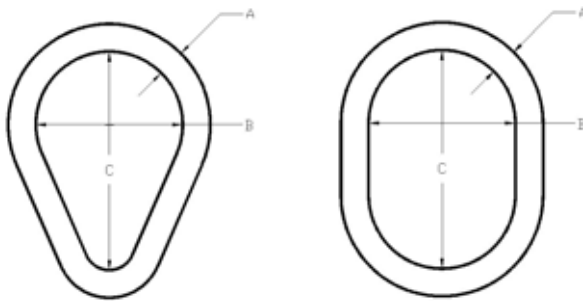

Figure 12. Dimension for Pear Link and Oblong Link.
- ii. Check dimensions for deformations, See Figure 12.